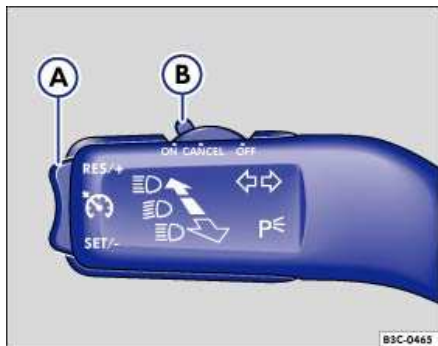

Fig. 19 Controls for operating the cruise control.
- Move the cruise control switch to the left, to the **ON** position ⇒ Fig. 19 (B).
- Move the cruise control switch ⇒ Fig. 19 (B) to the right, to the **OFF** position, **OR**
With the cruise control switched off temporarily, as described above, the set speed remains in memory. To resume the speed set earlier, release the brake pedal, move the cruise control switch to the left, to the ON position (⇒ Fig. 19 (B)) and press  at the upper part of button (A).